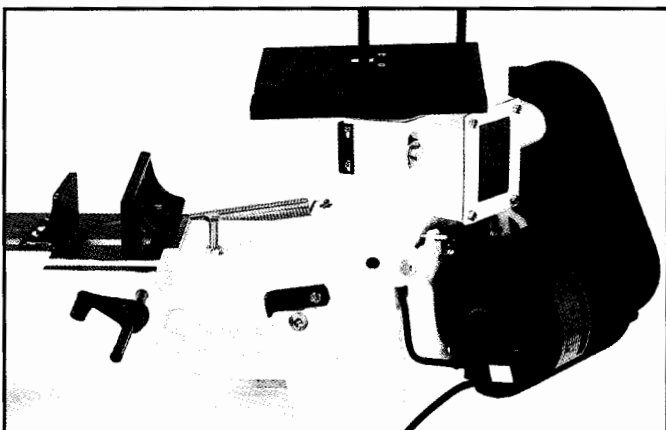

Fig. 6
6. Fasten support bracket to underside of table using screw and nut. See Figure 6.